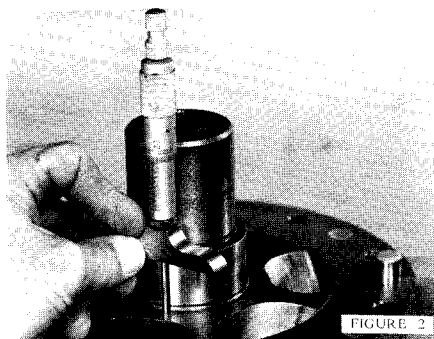

FIGURE 2
- With a depth micrometer measure from the shoulder of the shaft to end of rotor, Figure 2. Make this measurement on both rotors and record each measurement under main rotor and secondary rotor.